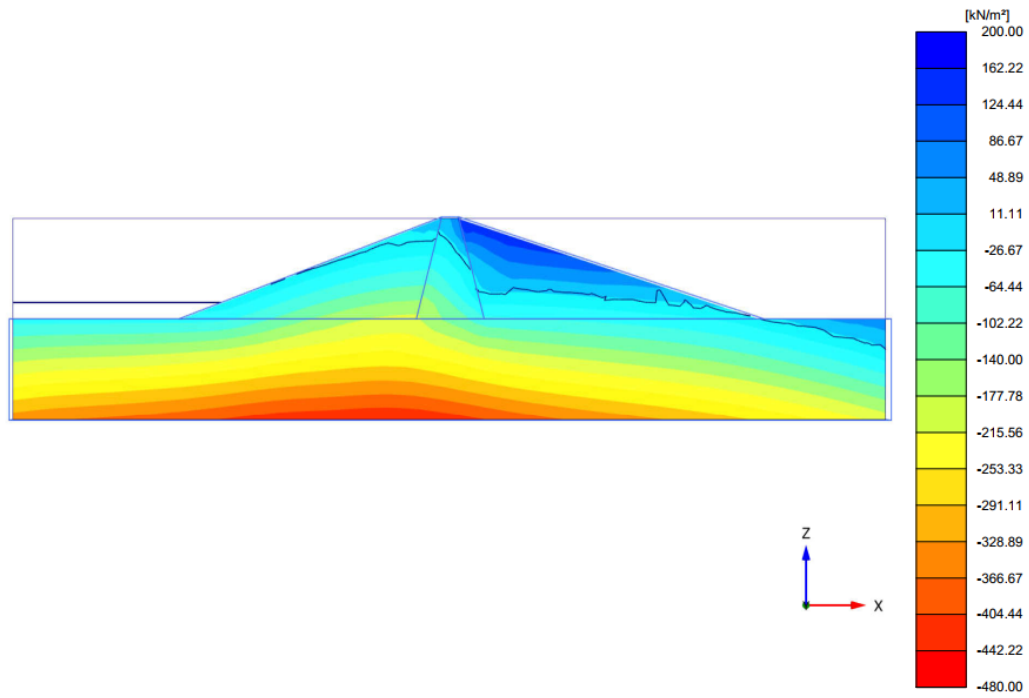

Figure 121: Pore water pressure distribution after rapid drawdown (Phase_1)
- The situation after rapid drawdown of the reservoir level - See Figure 121 (on page 148).